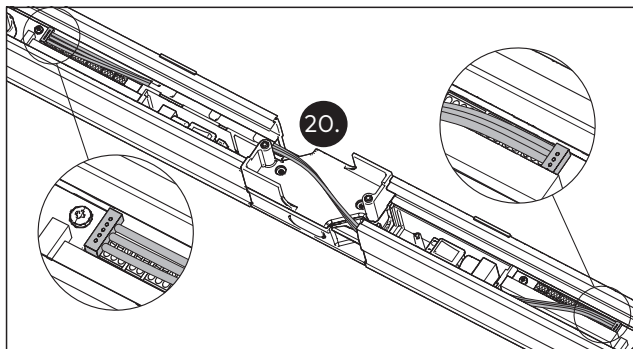

Fig. 25 Connecting the synchronization cable
20. Connect the synchronization cable (Fig. 25).